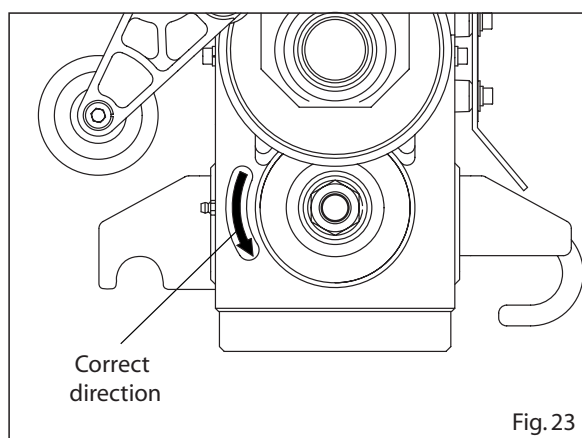

Fig. 23
- 3) If the threading machine has a switch for changing directions, use in the forward (normal) direction position for cutting threads. (Fig. 23)